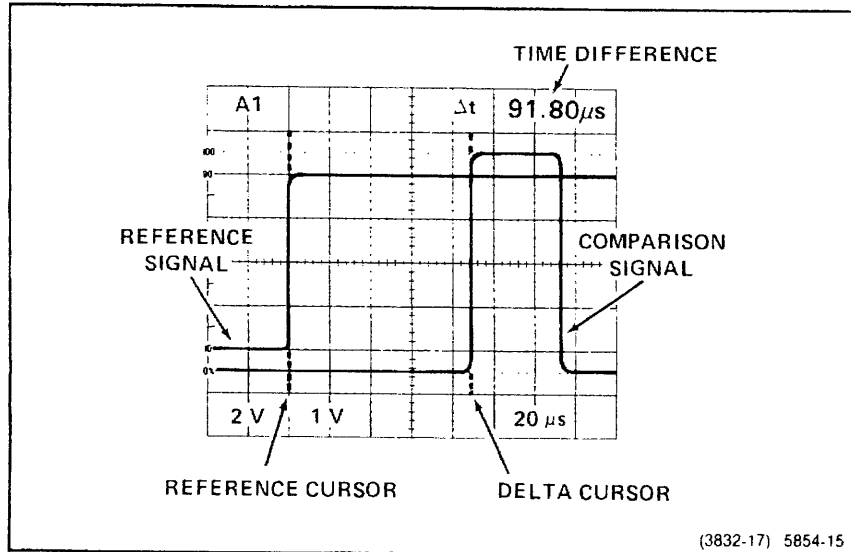

Figure 3-4. Time between two pulses (cursor method).
5. Turn on  $\Delta t$  and align the cursors with the intersections of the waveforms with the chosen graticule lines. (See Figure 3-4.)